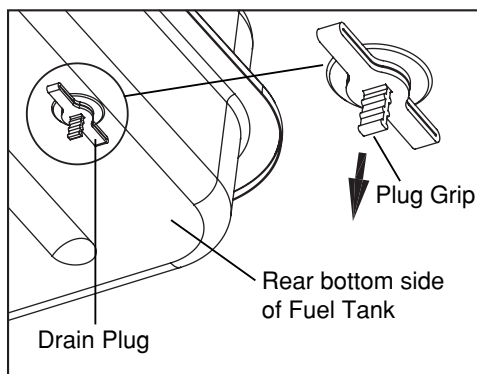

Figure 8
Align the holes on fuel tank flange. Insert screws through handles (Front and Rear), fuel tank flange, and wheel support frame as shown in figure 8 and attach nut finger tight after screw is inserted.
- 1) Align the hole on the handle (Front and Rear) with the mounting hole on the cord wrap (See Figure 8)
- 2) Insert screws through cord wrap, handles (Front and Rear) as shown in Figure 8 and attach nut finger tight after each screw is inserted.